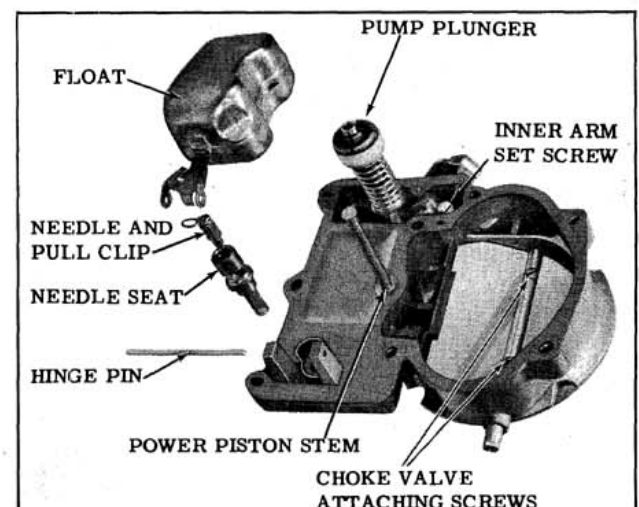

Fig. 4-28 Air Horn
7. Invert the air horn and place on a flat surface; then remove the float hinge pin, float and needle assembly. (Fig. 4-28)